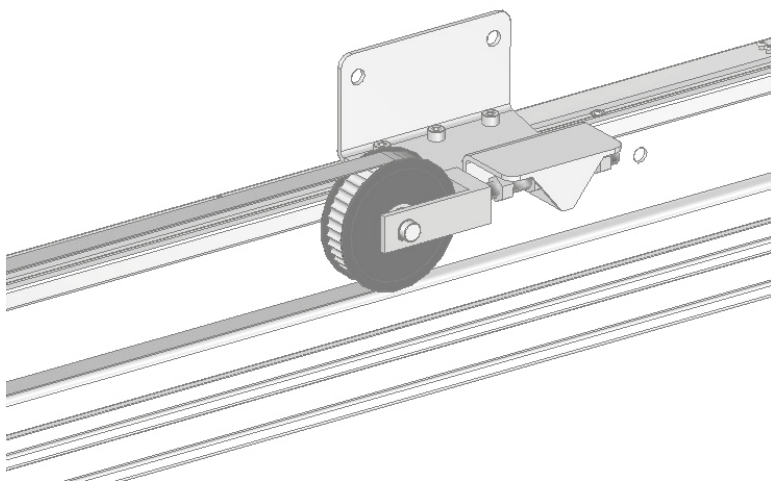

Fig. 11
- After checking correct alignment between the motor pulley and the idler pulley, tighten the belt to a tensioning force of ... N (Fig. 11).